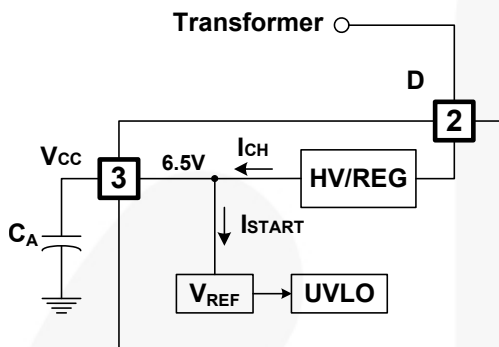
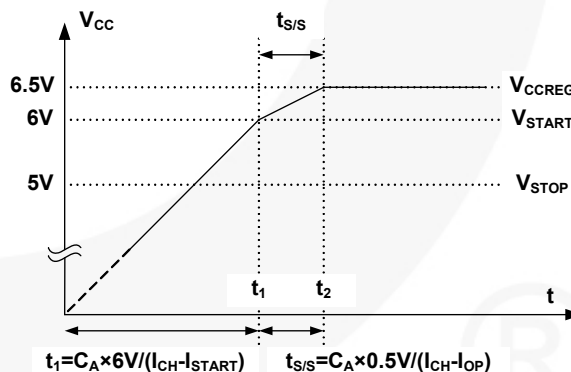

Figure 15.Startup Block
Figure 20. Soft-Start Function
1. Startup and V_{CC} Regulation: At startup, an internal high-voltage current source supplies the internal bias and charges the external capacitor (C_A) connected to the V_{CC} pin, as illustrated in Figure 15. An internal high-voltage regulator (HV/REG) located between the D and V_{CC} pins regulates the V_{CC} to be 6.5V and supplies operating current. Therefore, FSQ500L needs no auxiliary bias winding.
4. Soft-Start: The soft-start time is tuned by an external V_{CC} capacitor (C_A), which increases PWM comparator non-inverting input voltage together with the senseFET current slowly after it starts up. Before V_{CC} reaches V_{START} , C_A is charged by the current $I_{CH} - I_{START}$, where I_{CH} and I_{START} are described in Figure 15. After V_{CC} reaches V_{START} , all internal blocks are activated, so that the current consuming inside IC becomes I_{OP} . Therefore, C_A is charged by the current $I_{CH} - I_{OP}$, which makes the increasing slope of V_{CC} become sluggish. V_{CC} is shifted by 6.0V negatively (it is performed in soft-start block in Figure 2), and then $V_{CC} - 6.0V$ is an input of one of the input terminals of the PWM comparator. The drain current follows $V_{CC} - 6.0V$ instead of the V_{FB}^* because of the low-dominant feature of the PWM comparator. The soft-start time can be made long or short by selecting C_A , as described in Figure 20. During $t_{S/S}$, I_{DELAY} is disabled to avoid unwanted OLP. Typically, $t_{S/S}$ is around 4.6ms with 27 μ F of C_A .